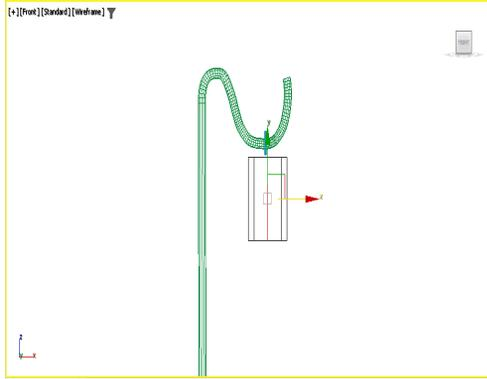

Figure 5-31 The edge selected
- Click on the arrow in the modifier stack; all sub-object levels are displayed. Select the **Edge** sub-object level. Now, activate the Front viewport and select the edge, as shown in Figure 5-31.